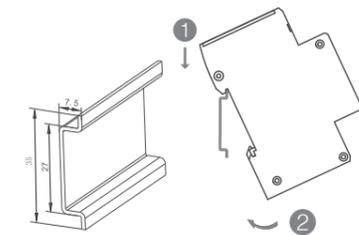

Figure3 Schematic diagram of the installation
7.2.1 Use TH35-7.5 mounting rail for installation, as shown in Figure 3 below.